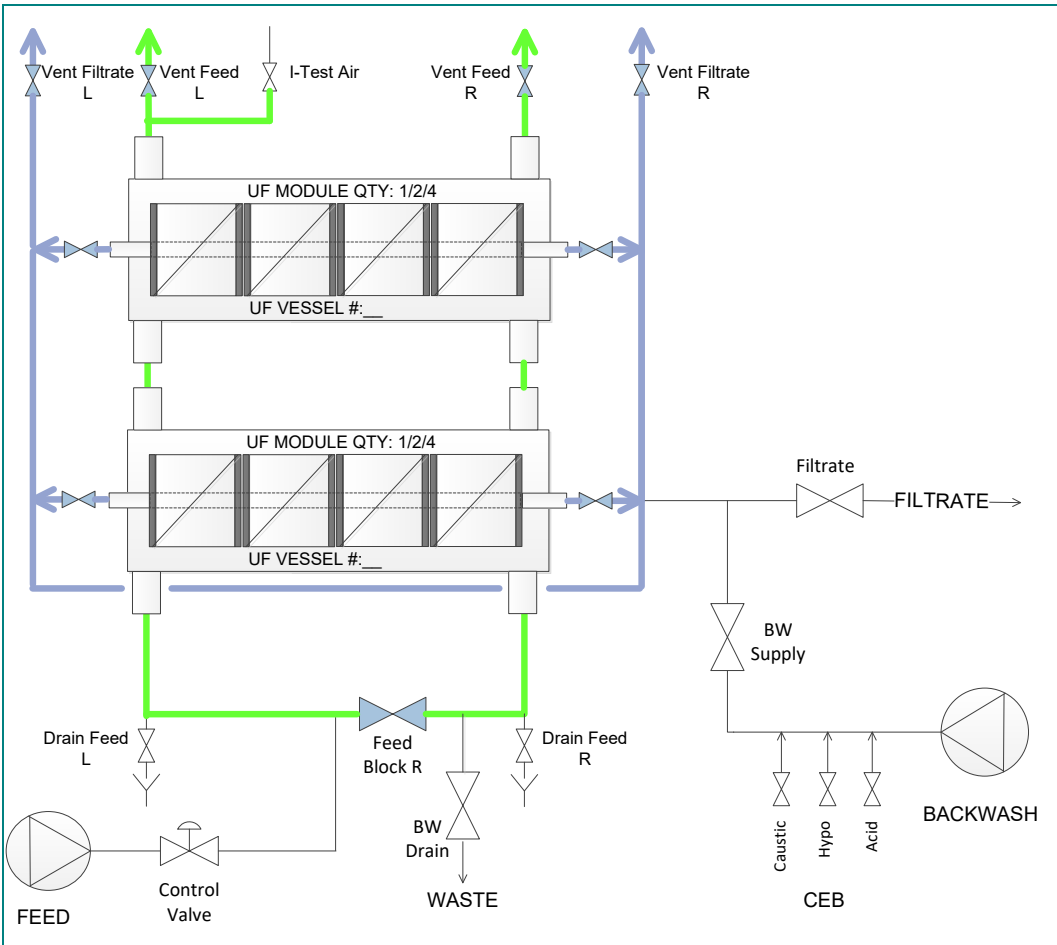

Figure 11.4-4 - Process Flow I-Test Pressure Relief – exemplary configuration
- After performing the pressure hold test, the pressure is released on the high-pressure side. For feed-side tests, this is achieved by opening a valve on the feed/rinse water side (see Figure 11.4-4).